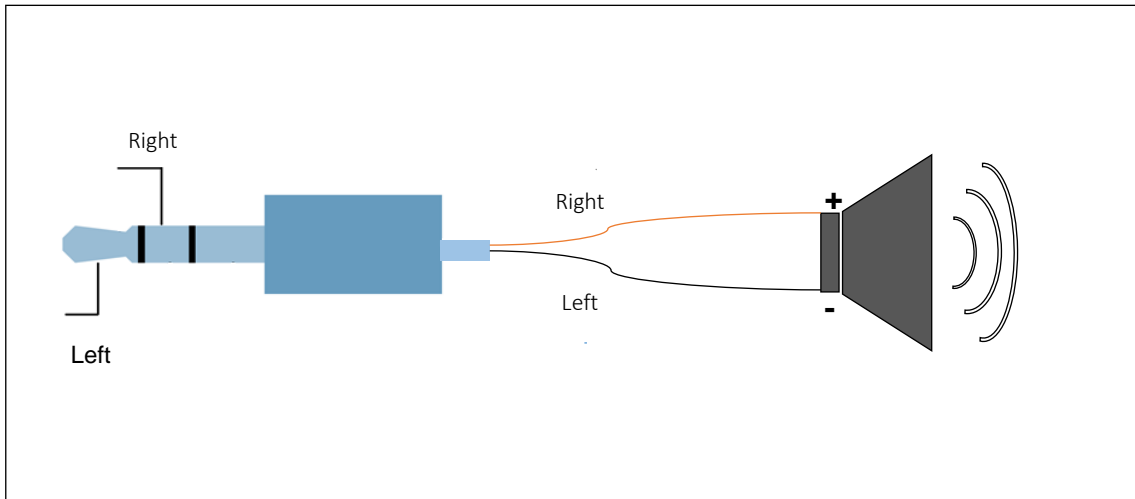

Figure 4-1 : BTL Speaker Configuration
- 3.5mm audio jack for speaker connection (CN6). The output is set to drive a mono speaker in BTL configuration. See Figure 4-1.